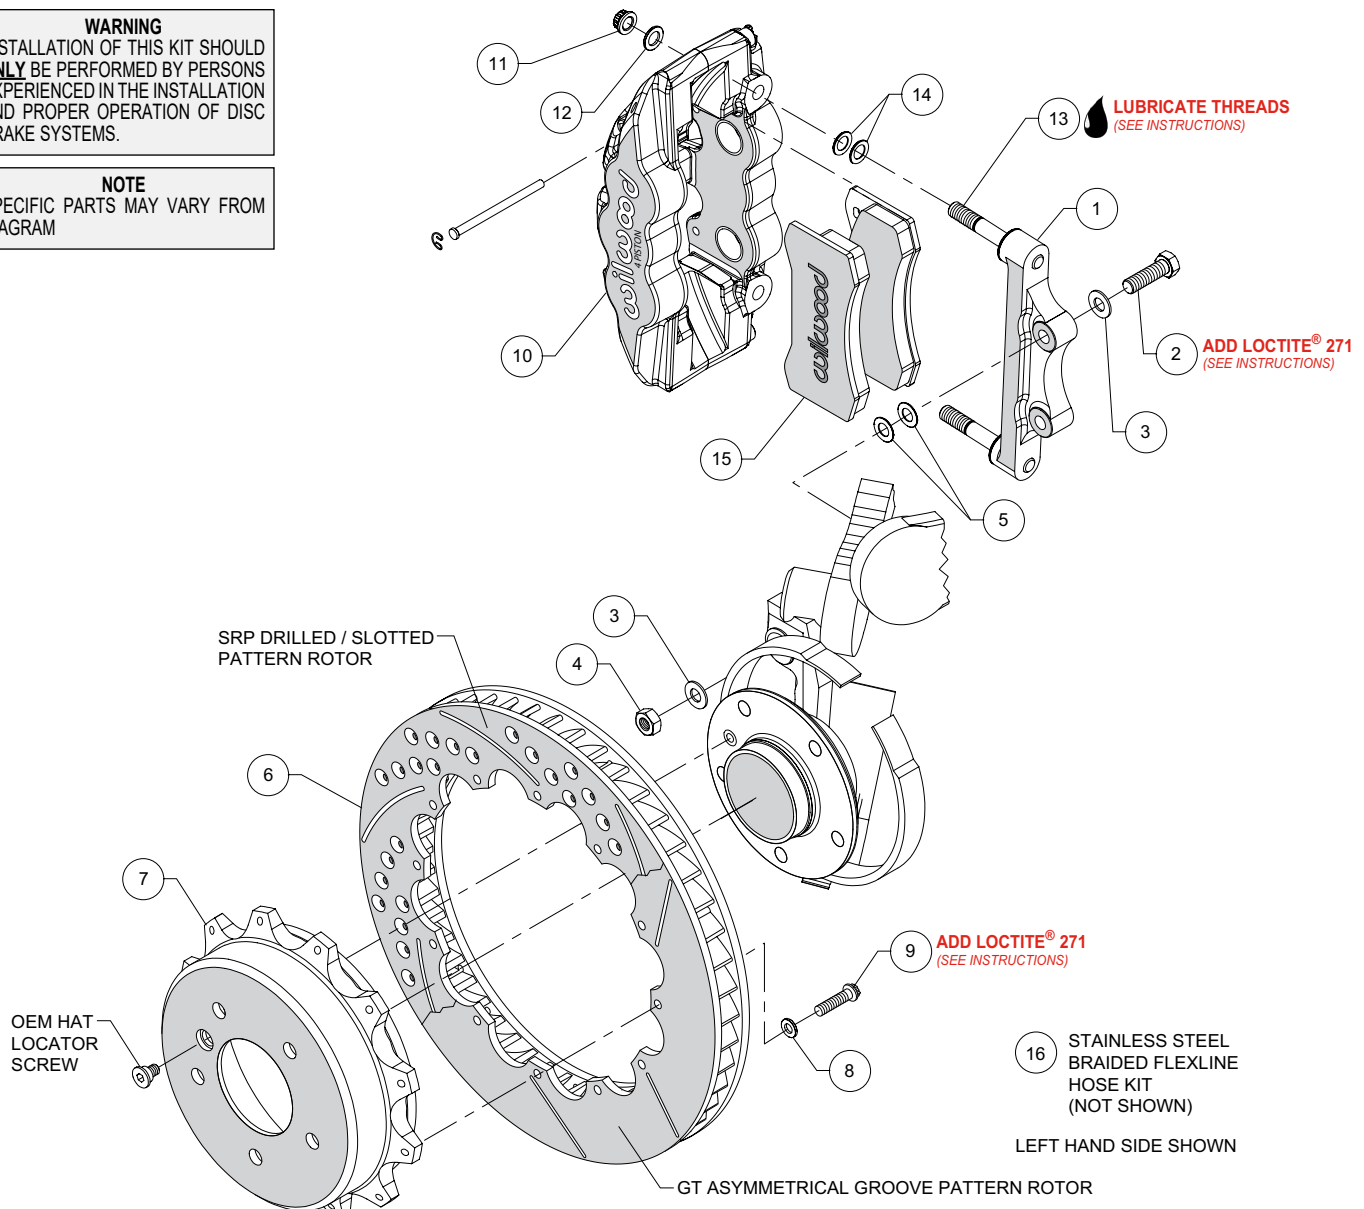
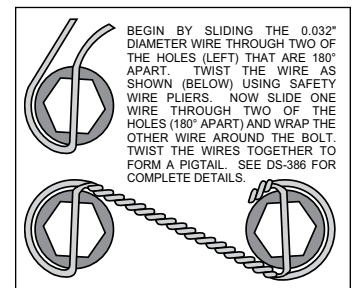

Figure 1. Typical Installation Configuration
Figure 3. Safety Wire Diagram
Assembly Instructions (numbers in parenthesis refer to the parts list and Figure 1 on the preceding pages):
- The caliper mount bracket (1) should initially be installed with clean, dry threads on the mounting bolts. Orient the bracket as shown in Figure 1, and Photo 2, and install using washers (3), bolts (2), and nuts (4). Initially place two .030" thick shims (5) on each bolt between the bracket and upright, Figure 1. Temporarily tighten the mounting bolts. **NOTE: The bracket must fit squarely against the mount bosses on the upright.** Inspect for interference from casting irregularities, machining ridges, burrs, etc. Later, after the caliper alignment has been checked, the mount bolts will be secured using red *Loctite*® 271.
- Orient the rotor (6) and the hat (7) as shown in Figure 1 and Photo 3. Attach rotor to hat using bolts (9) and washers (8). Apply red *Loctite*® 271 to the bolt threads and torque to 140 in-lb using a criss-cross pattern. For an added measure of security, the bolts may be safety wired using standard 0.032 inch diameter stainless steel safety wire as shown in Figure 3. Please refer to Wilwood's data sheet DS-386 (available at www.wilwood.com/Pdf/DataSheets/ds386.pdf) for complete safety wire installation instructions.
- Lubricate the caliper mounting studs (13) with lightweight oil. Initially place two .030" thick shims (14) on each stud as shown in Figure 1 and Photo 4. Mount the caliper (10) onto the bracket (1) using lock nuts (11) and washers (12), Figure 1. Temporarily tighten the lock nuts and view the rotor through the top opening of the caliper. The rotor should be centered in the caliper, Photo 5. If not, adjust by adding or subtracting shims (5) between the bracket and the upright. Always use the same amount of shims on each of the two mounting bolts. Once the caliper alignment is correct, remove the bracket mounting nuts (4) one at a time, apply red *Loctite*® 271 to the threads, and torque to 40 ft-lb.
- Remove the two pad retaining pins from the caliper by carefully popping out the pin retaining clips and sliding out the pins. Insert the brake pads (15) into the caliper from the bottom, Figure 1, and Photo 6, with the friction material facing the rotor and secure the brake pads in place with the pad retaining pins and clips, Photo 7. Reinstall the caliper onto the caliper mounting bracket and temporarily tighten the lock nuts. Check that the top of the brake pad is flush with the outside diameter of the rotor, Photo 8. If not, adjust by adding or subtracting shims (14) between the caliper and the bracket. After the caliper pad height is set, torque the caliper lock nuts (11) to 47 ft-lb.